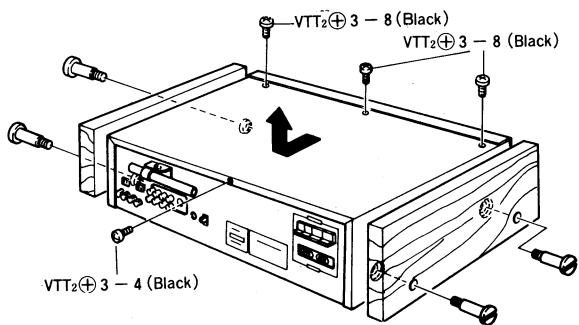

Fig. 1
1) Remove 8 screws. (Refer to Fig. 1)